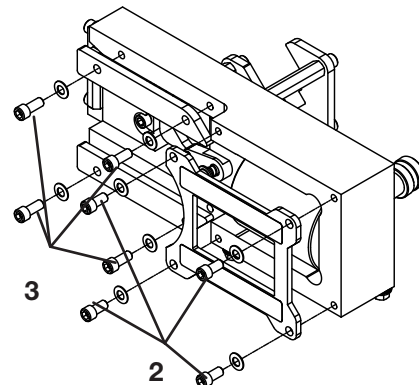

Figure 3
3. Remove the screws for the rails (3) and the screw for the cylinder frame (2) as shown in Fig. 3.